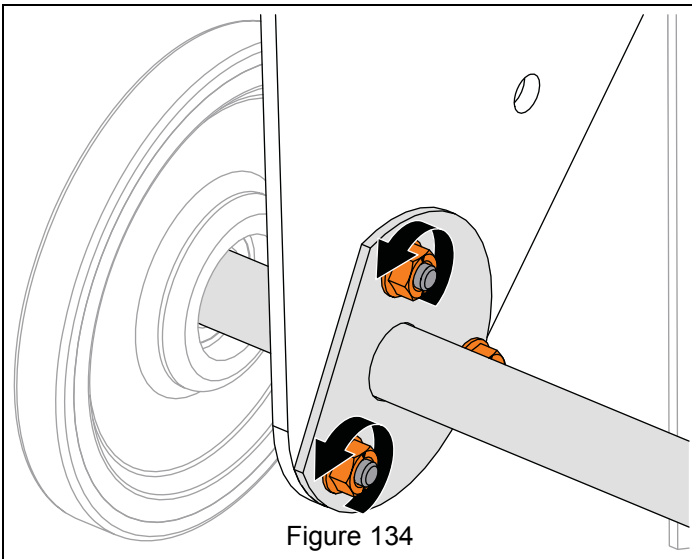

Figure 134
9. Loosen, but DO NOT remove hardware securing axle mount plates to carriage side plates. See Figure 134.